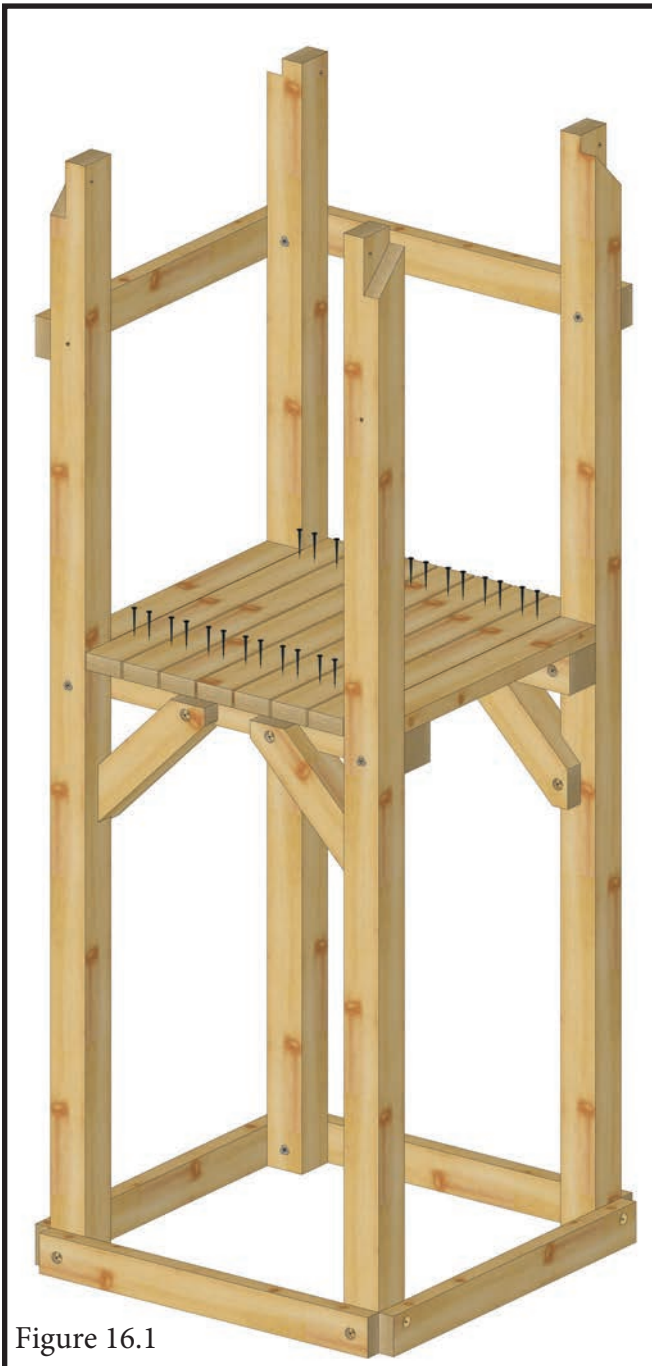

Figure 16.1
16.1 Pre-drill and evenly space out Deck Boards 33" as shown in Figure 16.1.